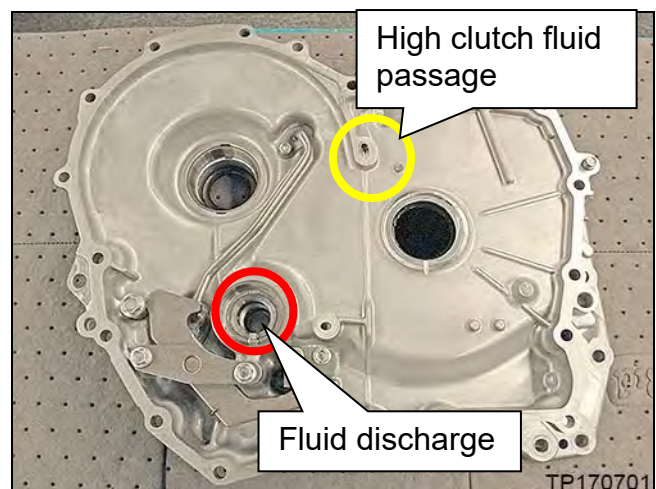

Figure 6L
**CAUTION:** Brake cleaner will exit the passage shown as “fluid discharge” in Figure 6L while cleaning passage.